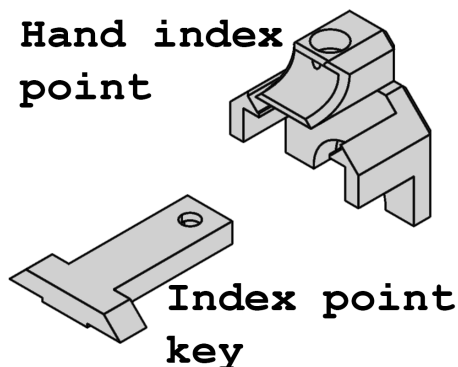

Figure 3: Hand index point (Floodlight OWB version)
4. Insert the hand index point alignment key (Figure 3: **Index point key**) into the void previously occupied by the front sight.